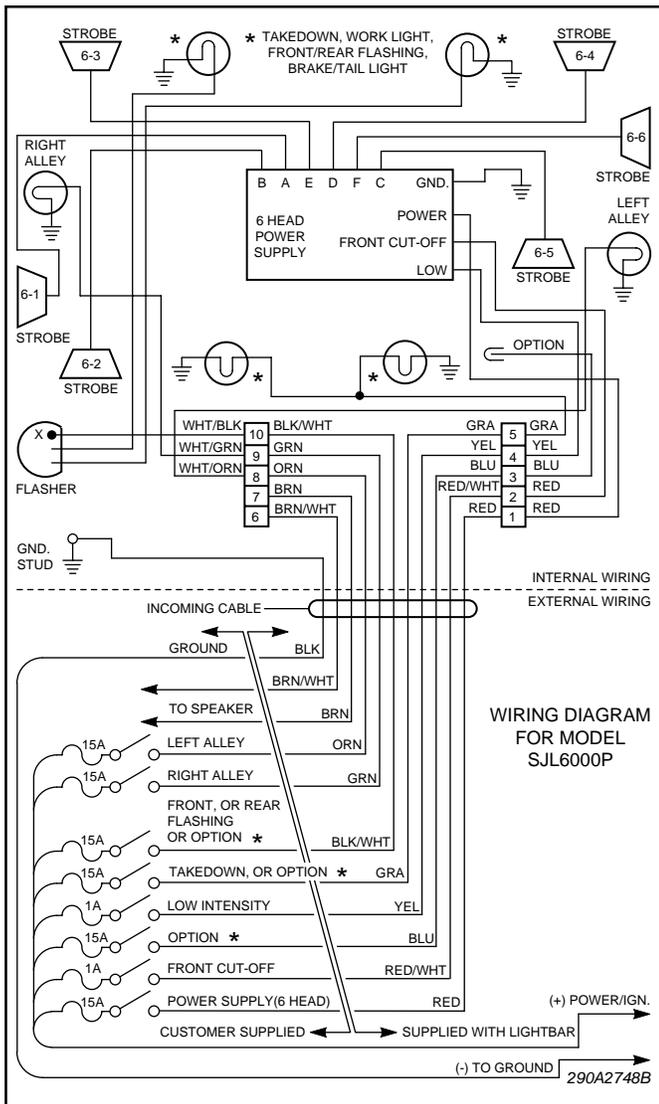

Figure 1.
2. For proper light operation, the control cable must be properly terminated inside the user-supplied control head. Using the appropriate wiring diagram (figures 1 through 7) as a guide, make the appropriate electrical connections shown in Tables 1 and 2. Ensure that the lines are adequately fused as shown in the appropriate figure.